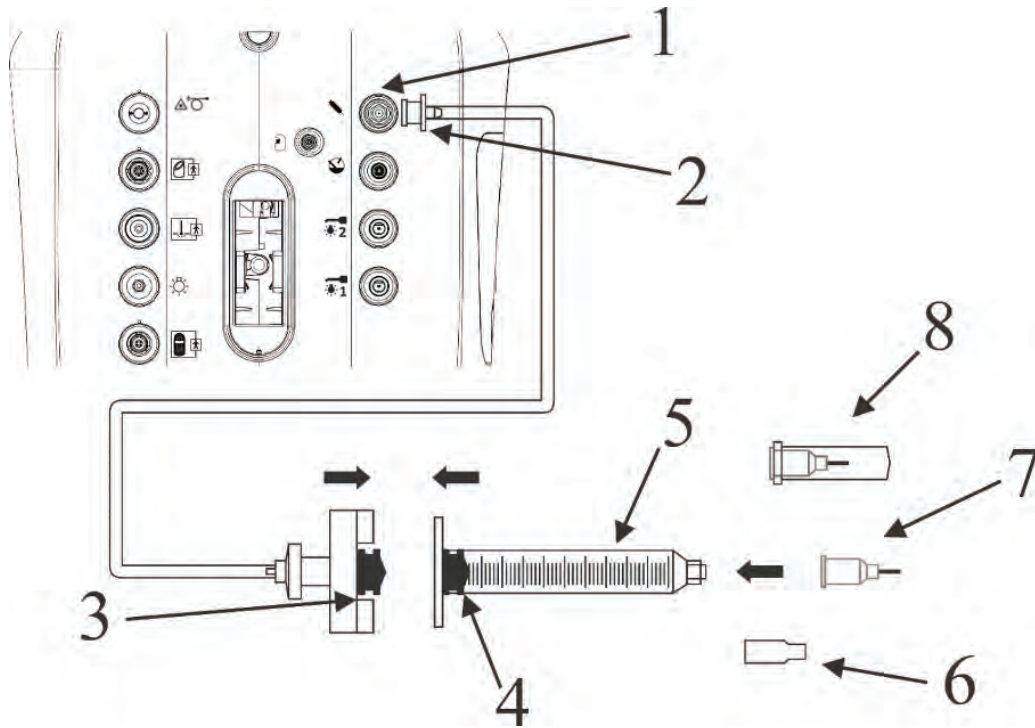

Figure 4.29. **Viscous Fluid Injection Setup.**
3. Connect the syringe coupler of the Viscous Fluid tubing to the syringe filled with silicone oil. Twist the coupler to lock it securely to the syringe (see Figure 4.29).
3. Remove the syringe cap (item 6 of Figure 4.29). (Must be completed before step 4)